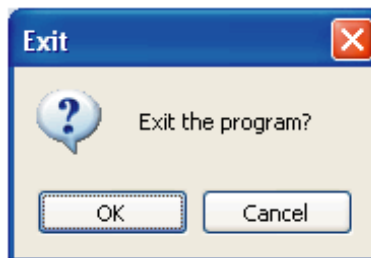

Fig.4-17
③Click "Exit the program" to quit the program, while click "Cancel", system will not quit, as Fig. 4-17.
2) "Equipment management" includes: "KJR Setting", "Module parameter setting", "Outdoor module setting", as Fig. 4-17.